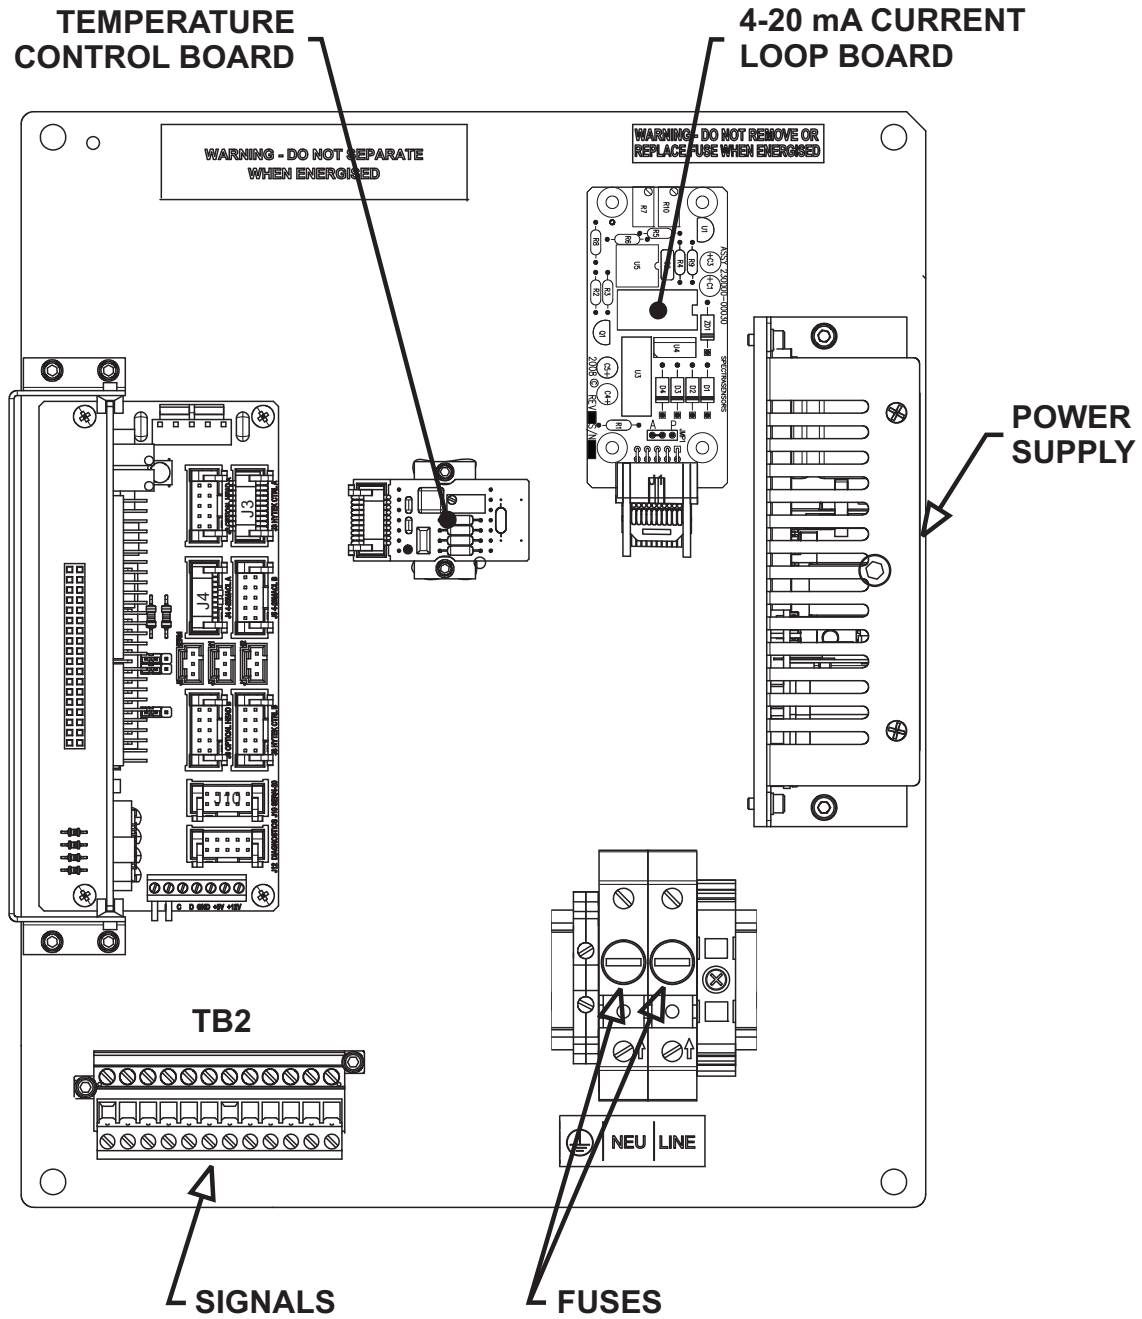
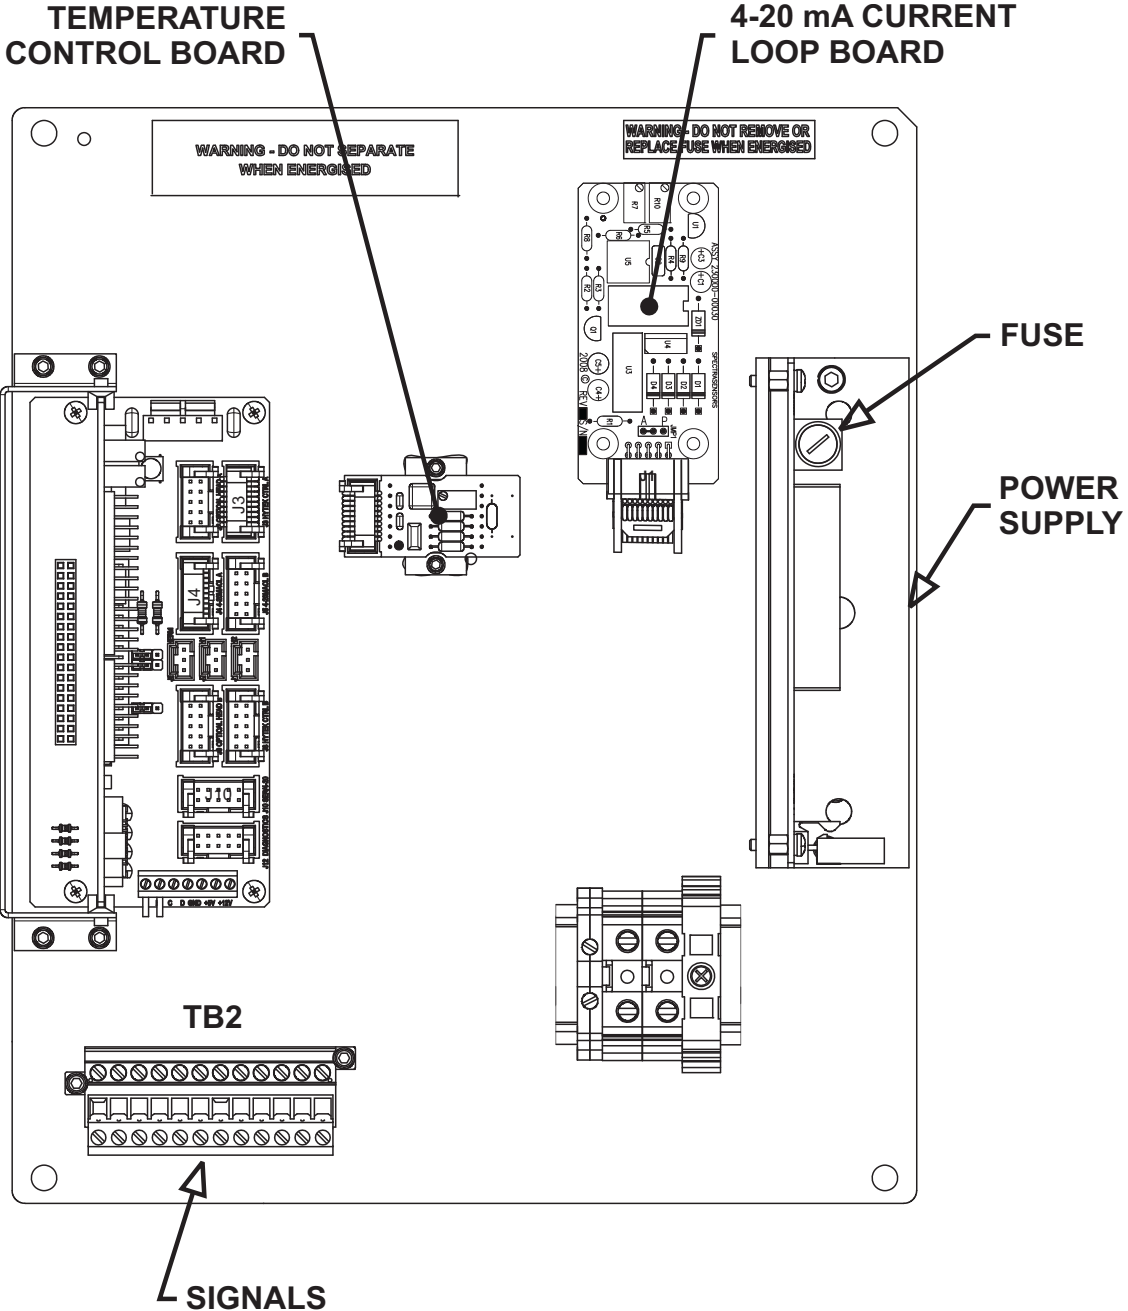
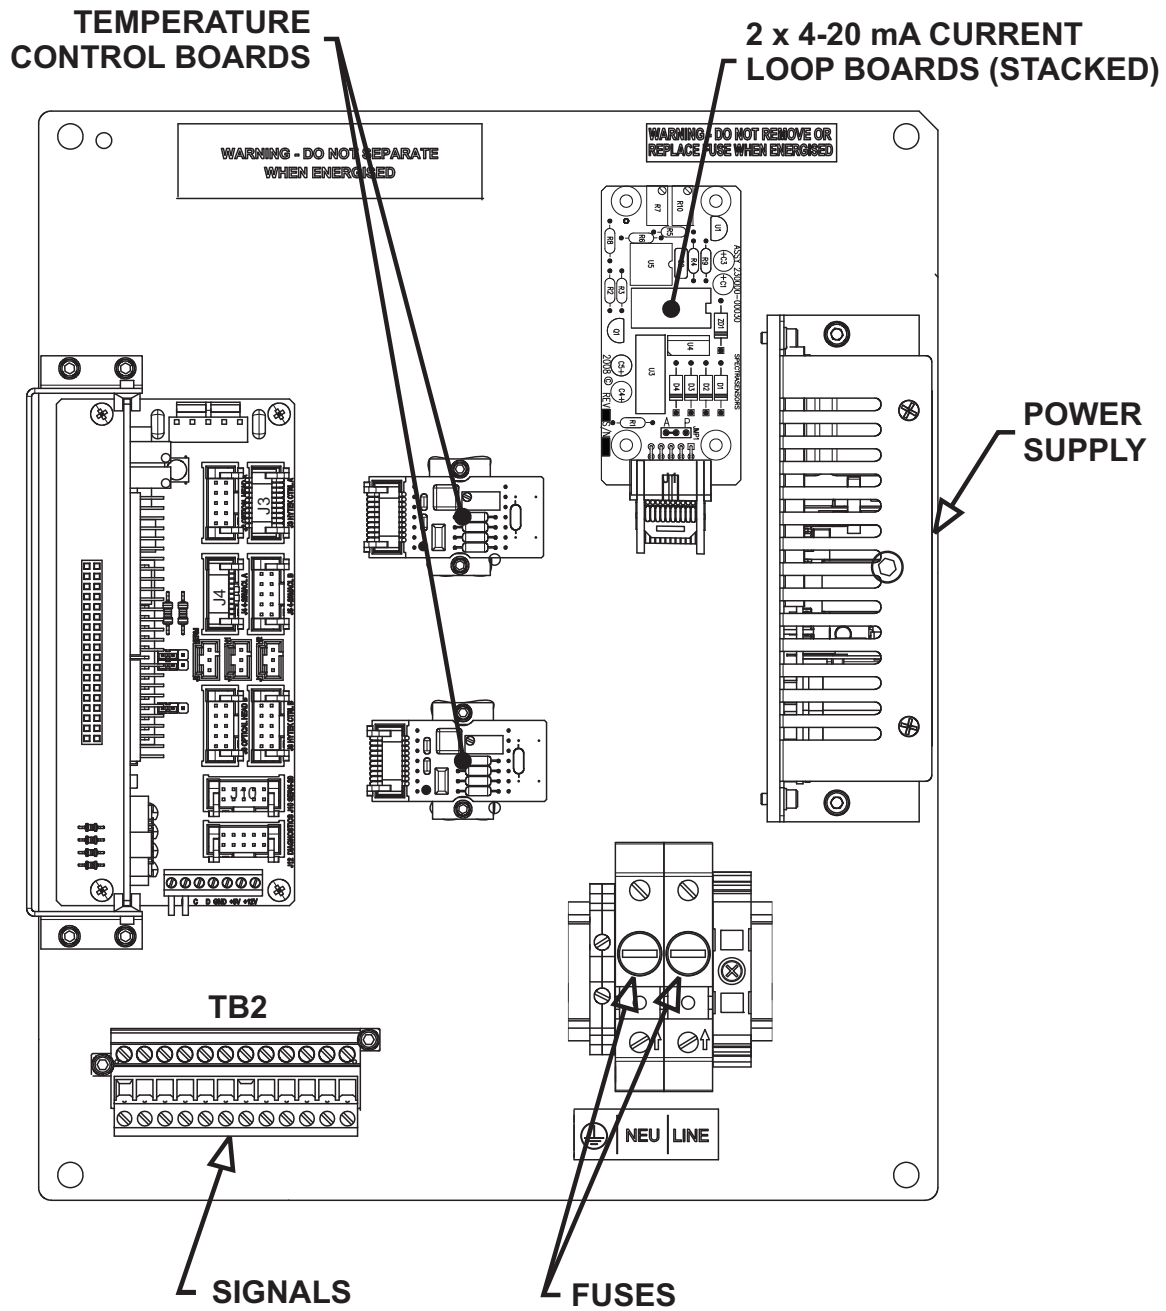
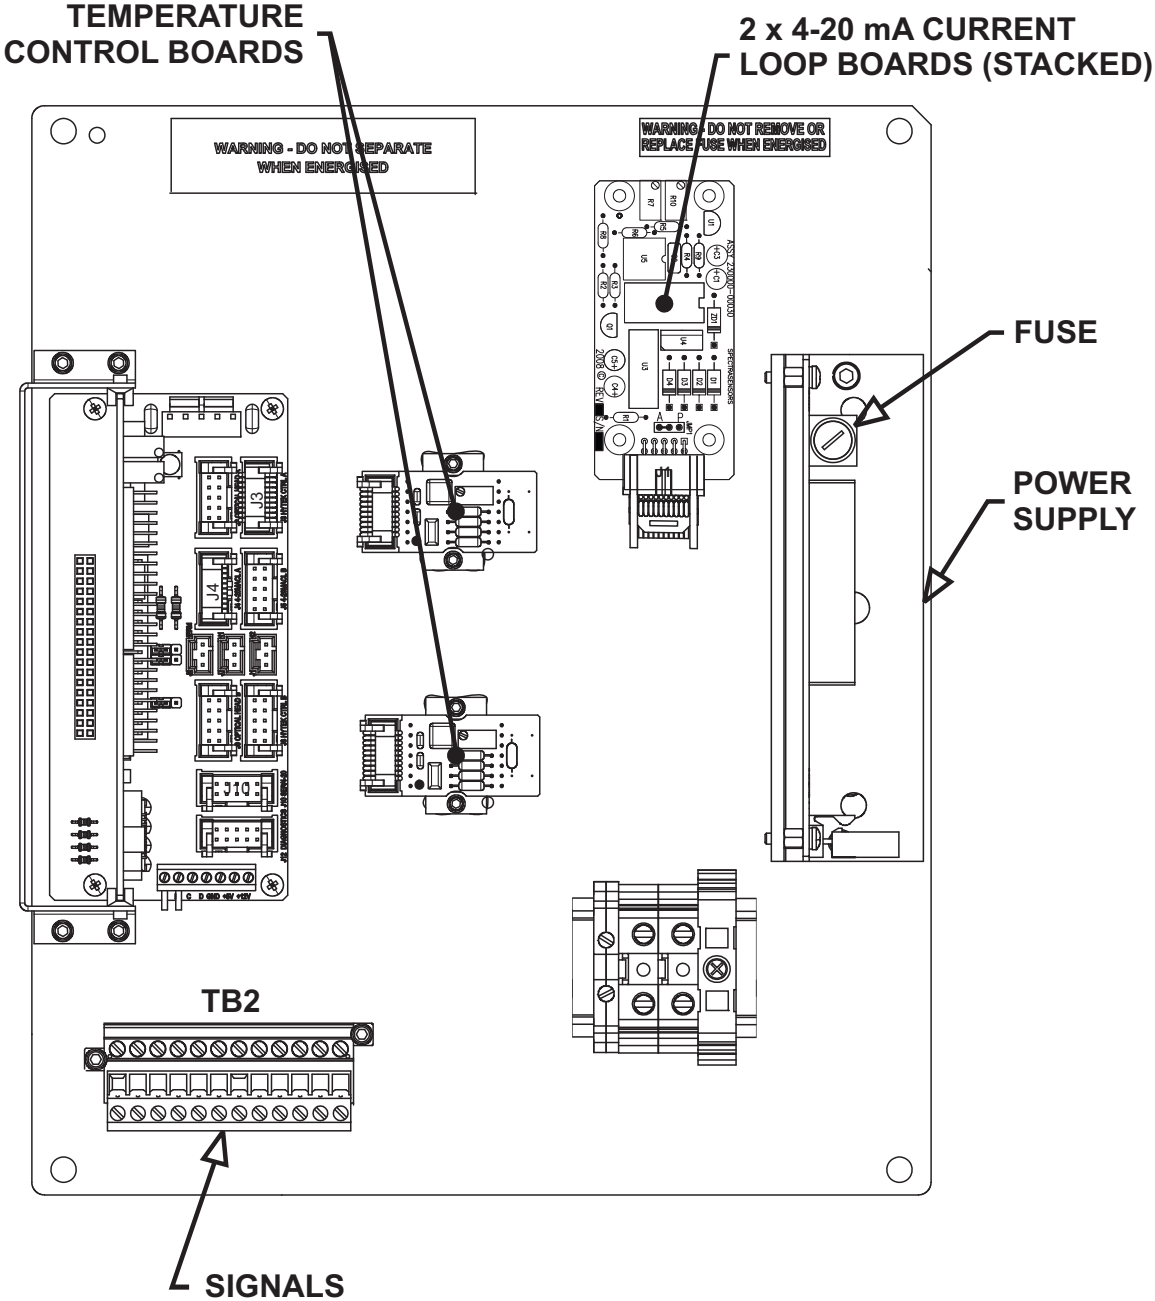

Figure 2-2 Electronics control board (AC) for single-channel systems (SS500/SS2000).
Figure 2-3 Electronics control board (DC) for single-channel systems (SS500/SS2000).
Figure 2-4 Electronics control board (AC) for dual-channel systems (SS3000).
Figure 2-5 Electronics control board (DC) for dual-channel systems (SS3000)..
The 4-20 mA current loop and serial output(s) are supplied from the mating terminal block (TB2) located inside the analyzer electronics enclosure as shown in Figure 2-2, Figure 2-3, Figure 2-4 or Figure 2-5. By default, the 4-20 mA current loop output is factory set to source current.
- 2.** Locate the 4-20 mA board(s) in the center of the electronics enclosure, as shown in Figure 2-2, Figure 2-3, Figure 2-4 or Figure 2-5.